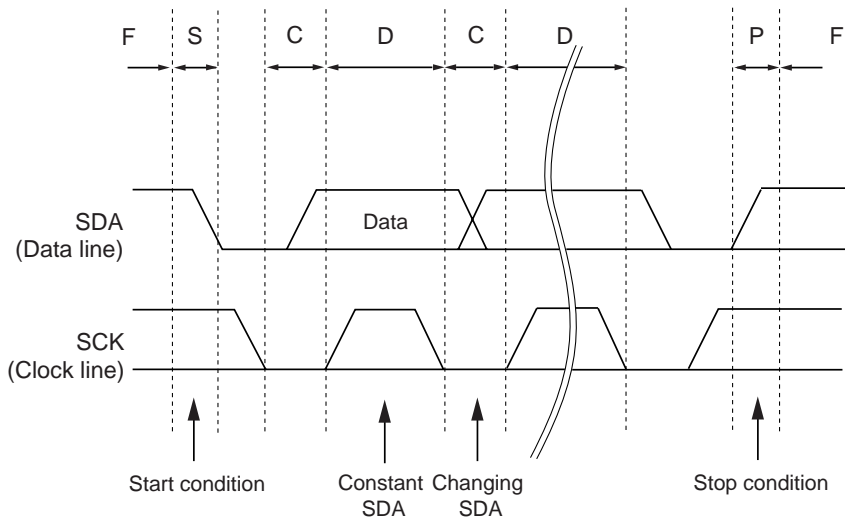

Figure 6-3-1-5 Bit Transfer Procedure on the I²C Serial Bus
Figure 6-3-1-6 shows three data formats that have been prepared for use with the I²C Serial Interface. The first byte (SLA and R/W) that follows start signal (S) normally consists of 8 bits.